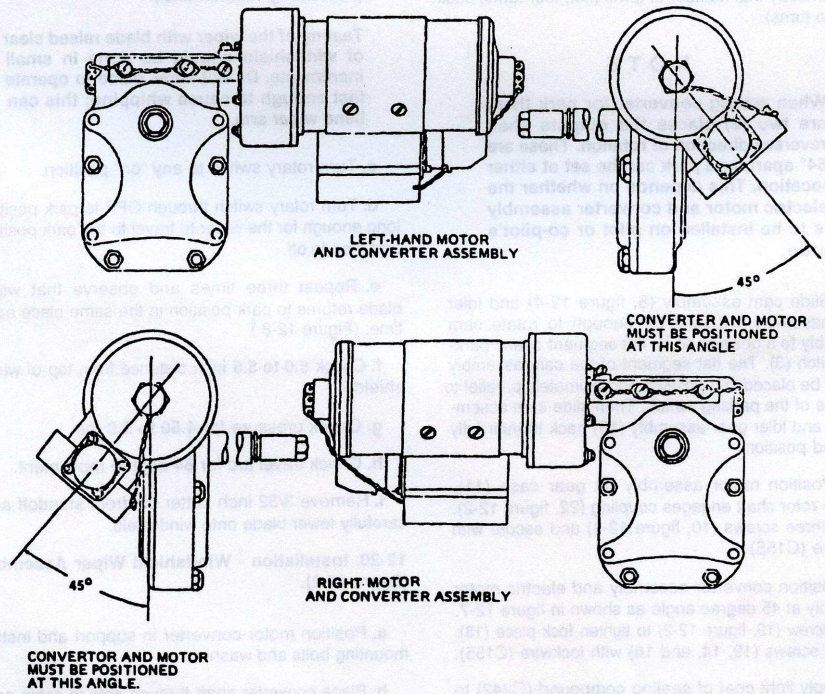

Figure 12-7. Motor and Converter Assembly — Left & Right Configuration
(15) If removed during disassembly, reinstall washer (12) in gear case (11) and stake in place. Install insulator (9) in gear case and secure with sealing compound (C240).
(16) Install gear case (11) and secure with three screws (10). Do not lockwire screws until final assembly.
(17) Position brush and clip assemblies (28) in brush holders and secure with two screws (27) and lockwashers (30).
(18) Position insulation (44) and cover and nameplate assembly (41) on barrel assembly. Secure with three screws (42) and lockwashers (43).
(19) Install end cap (31). Secure with lockwire (C155).
(20) Test electric motor assembly in accordance with paragraph 12-19.
**12-18. Final Assembly — Windshield Wiper.** The motor and converter assembly may be assembled in either the left or right configuration. Figure 12-7 illustrates both configurations and depicts the proper angular orientation of the electric motor assembly in respect to the converter assembly. Determine the desired configuration, then proceed as follows: